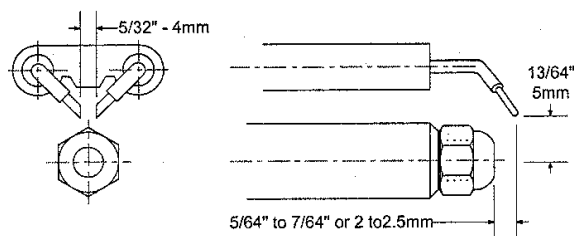

Figure 7: Riello Electrode Setting
- c. Inspect and measure burner electrodes. Refer to Figure 7 for the proper electrode settings.